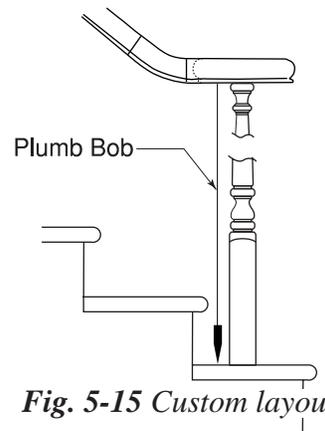

Fig. 5-15 Custom layout
8. Using a plumb bob, mark a line on the tread that corresponds with the marks on the bottom of the volute. Please note Fig. 5-15 here.